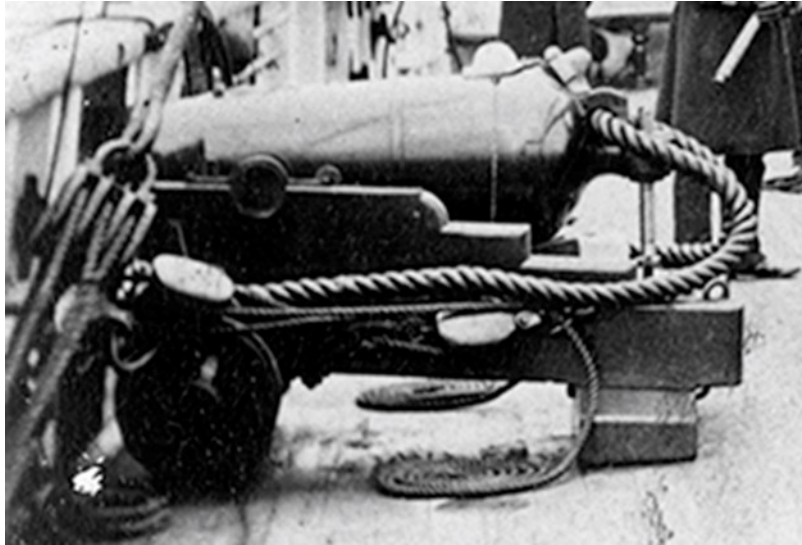
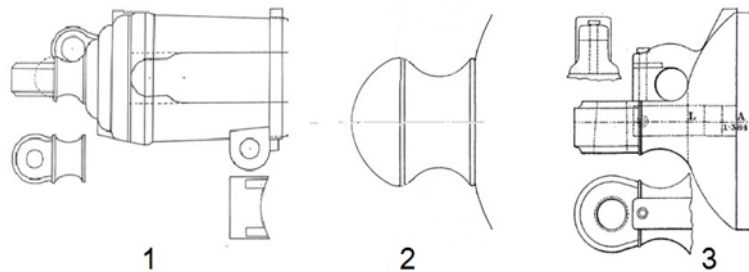

Figure 2 – 32-pdr Dundas 25-cwt Medium Gun fitted in HMCSS Victoria
Figure 3 – 32-pdr Gun Modifications
The SBML 32- pounder 25-cwt guns pictured aboard HMCSS *Victoria* are of the 'medium' calibre 6-foot Dundas pattern. This determination is confirmed with comparison of the detail against the drawings for the gun made by Captain Boxer, RN, in his 'Diagrams of Guns' (1853). The photograph at Figure 2 is a crop of a photograph taken by Davies & Co c.1865/6 titled 'H.M.V.S. *Victoria* with crew assembled on deck'.
The following information, provided by Keith Quinton, an Australian Army History Unit (AAHU) Researcher, at Fort Queenscliff, assisted in identifying the gun pattern. Keith based his opinion on information found in pages 64/65 of David McConnell's 1988 Paper 'British Smooth Bore Artillery: 'A Technological Study to Support Identification'. Keith was able to identify the guns by their distinctive upper cascable loop, the addition of the lateral loop for the vertical elevating screw adjustment, and the positioning of the two re-enforcement loops in the comparative drawing of British short gun cascabels as shown in Figure 3.
Figure 3 legend:
The cumulative weight of evidence makes it almost certain that the gun shown in the photograph (Figure 2) is a Dundas 6-foot medium gun of 25-cwt as listed in the 32-pounder Service Gun list published by Griffiths (Figure 1).
The gun carriage, as depicted in the photograph at Figure 2, appears to be a typical rear chock carriage of the period. J.D. Moody in his article 'Old Gun Carriages', published in the *Mariner's Mirror*, Volume 38 (4) of 1952, page 307, explains that these carriages came into vogue in the 1840s with the introduction of guns of the Blomefield pattern. He also writes:
The carriage drawings developed by the author are based on drawings for a 64-pounder gun rear chock carriage dated 5 October 1854, held in the NMM Collections (ZAZ7000) and adapted to follow Moody's comments. When scaled appropriately, the NMM carriage conforms very closely to the carriage shown at Figure 2. Noting the photo shows the carriage at a slight oblique top down view some allowance for perspective must be made when comparing the two.
The furniture fitted to *Victoria’s* broadside gun carriages is clearly evident in the photograph of the crew assembled on the after upper deck (Figure 2). The following discussion is not intended to be a definitive statement of the carriage furniture nor is it fully inclusive of all the fittings. The position of the various through bolts, eyebolts etc. can be determined from the drawings of the carriage.
The gun shown in the photograph (Figure 2) clearly shows the elevating mechanism discussed briefly earlier. The screw shaft was probably made of gunmetal, or possibly bronze. The upper end of the screw shaft was wound through a wormed thread cut in the large horizontal lug (lateral loop) at the after end of the breech as shown as item 3 in Figure 3 earlier.
Analysis of the carriage fittings shown in the photograph at Figure 2, establishes that the carriage had five eyebolts fitted to accept hooks for the gun, traversing and train tackles.